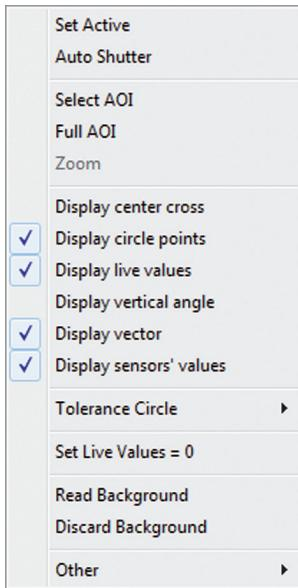

Fig.3-12
9. Right-click in the camera window and tick the checkmark for Display circle Points, Display live values and Display vector (see Fig.3-12).